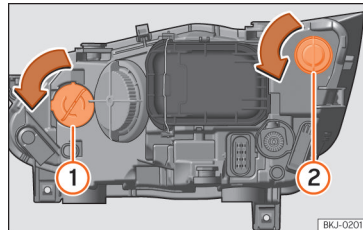

Fig. 104 In the engine compartment: turn signal light bulb ① and DRL (daytime running light) bulb ②.
- Turn the bulb holder »» Fig. 104 ① or ② to the left and pull.